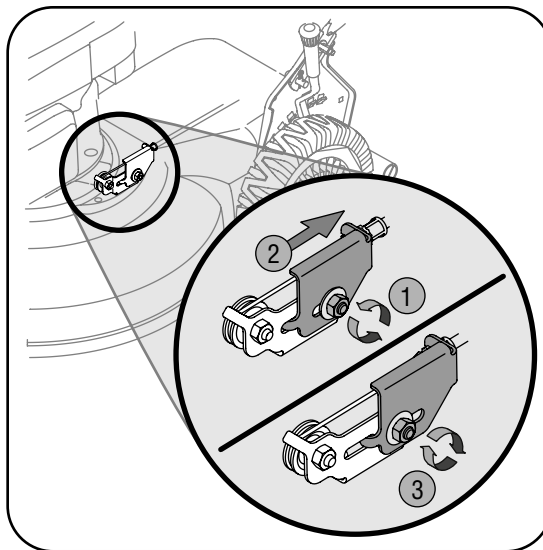

Figure 5-3
1. Loosen hex nut which secures the adjustable cable bracket. See Figure 5-3.